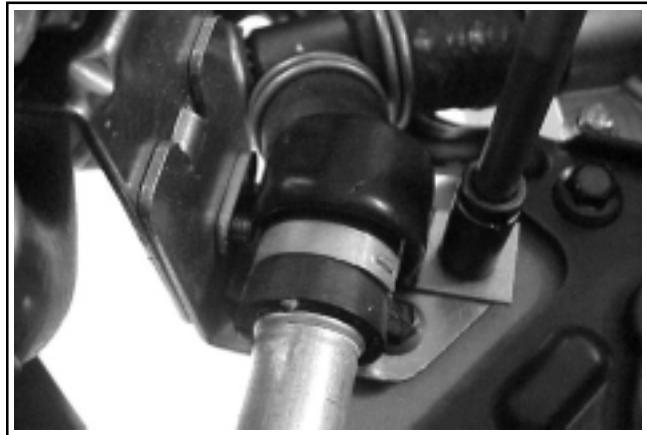
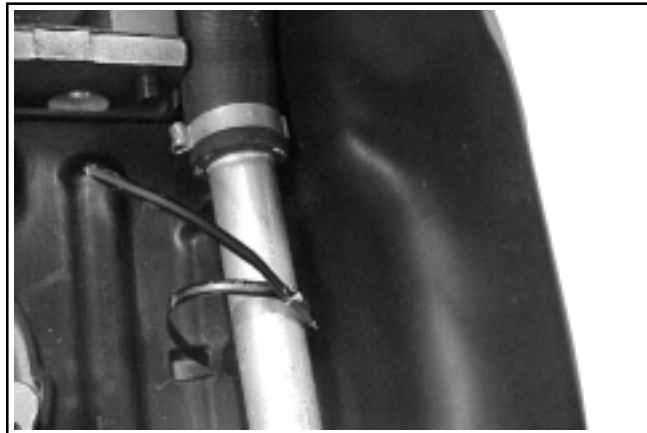

Figure 11-76. Rear Bracket/Clamp.
Figure 11-77. Tie Strap.
- Align the rear mounting bracket with the corresponding set of holes in the crankcase. Position the half clamp over the hose and install the two hex. flange screws. See Figure 11-76. Allow the entire cooling system assembly to center itself within the constraints of the mounts, then torque the screws to **10.7 N·m (95 in. lb.)** if a first time/initial installation, or to **7.3 N·m (65 in. lb.)** anytime thereafter. Close, but do not tighten the metal tie strap around lower tube. See Figure 11-77. Tightening of tie strap assembly has been installed in the following sequence.